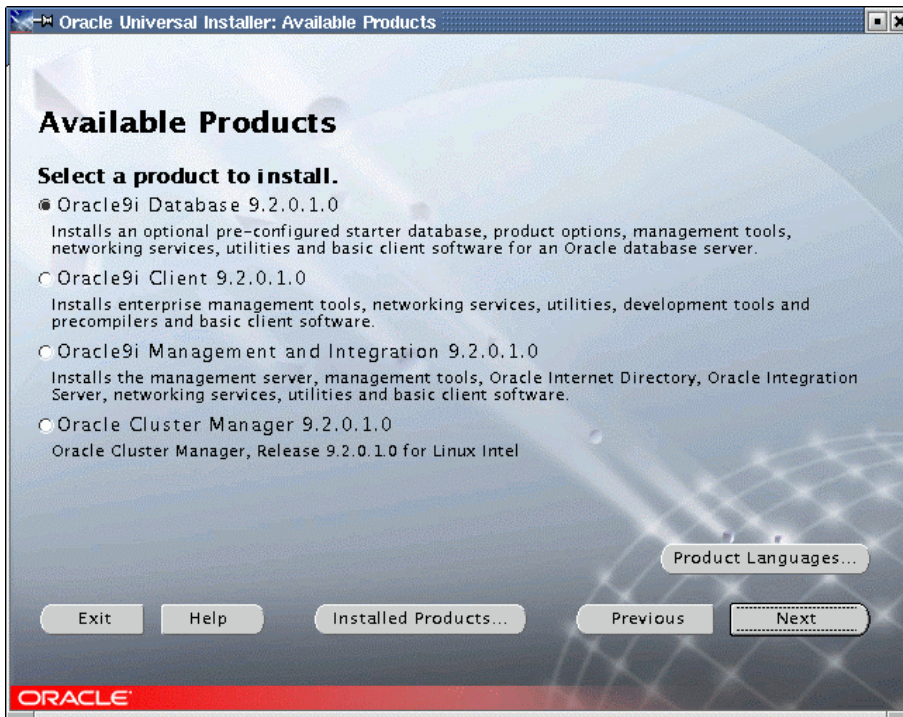

Figure 40. Available Products
2. Select **Oracle9i Database 9.2.0.1.0** from the Available Products window (Figure 40) and click **Next** to continue.
- On the Privileged Operating System Groups window (Figure 40) select the operating system group(s) for your database operator and administrator. Normally, these values are set to dba. Enter the appropriate information and click **Next** to continue.